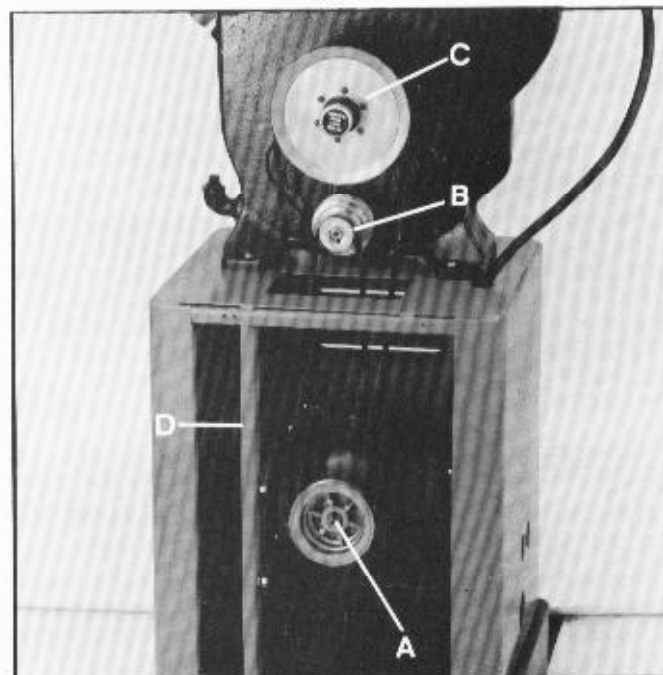

Fig. 5
1. Using a straight edge, align the inside grooves of the pulleys (A) and (B) to the inside edge of the driven pulley (C) Fig. 5. The pulleys can be moved in or out on the shafts and the motor can be moved lengthwise if necessary.
2. Assemble the largest V-Belt to the inside groove of the motor pulley (A) and to the driven pulley (C) Fig. 5. Assemble the smaller V-Belt to any one of the remaining three grooves of the motor pulley (A) and the corresponding groove of the gear box pulley (B).
3. Adjust for proper belt tension by raising or lowering the motor on the motor mounting bars. If necessary the motor mounting bars can be repositioned on the two posts (D) Fig. 5. Make certain pulleys are kept in alignment when doing this. Correct belt tension is obtained when there is approximately 1" deflection in the center span of the pulleys with light finger pressure.